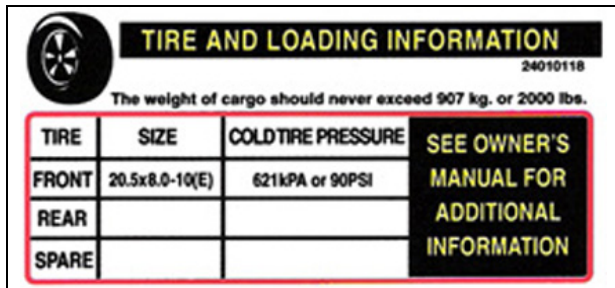

Figure 3-1 - Information Placard
1. Locate the statement, "The weight of cargo should never exceed XXX kg or XXX lbs.," on your vehicle's placard. See figure 3-1.